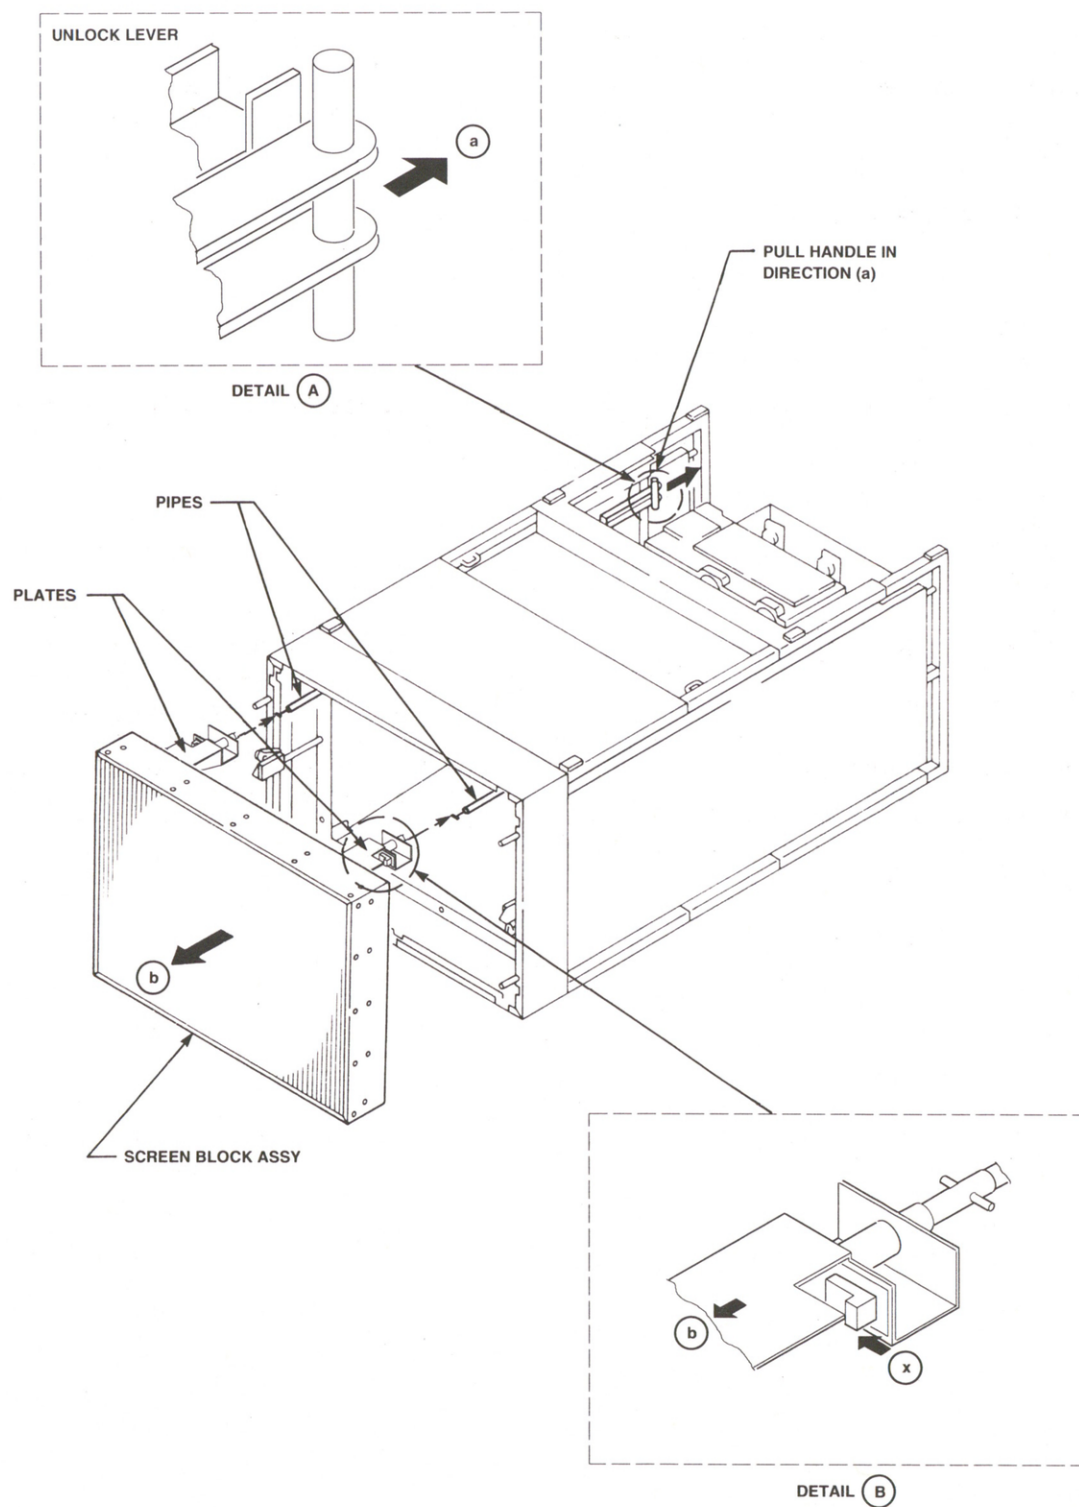

Figure 1
See Figures 1 through 3.
3. While pushing part (x) on both right and left plates, pull plates and screen block assembly in arrow (b) direction as shown in Figure 1, Detail (B), to remove screen.